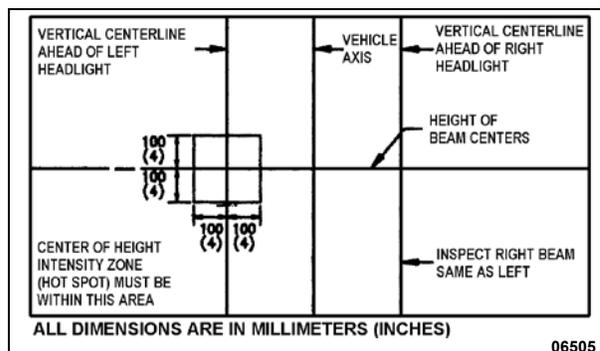

FIGURE 50: AIM INSPECTION LIMITS FOR UPPER-BEAM HEADLIGHTS 06505
- The inspection limits for high-beam headlights shall be with the center of the high-intensity zone from 10 cm (4 in) up to 10 cm (4 in) down; and, from 10 cm (4 in) left to 10 cm (4 in) right on a screen at 7.6 m (25 ft) (Figure 50).